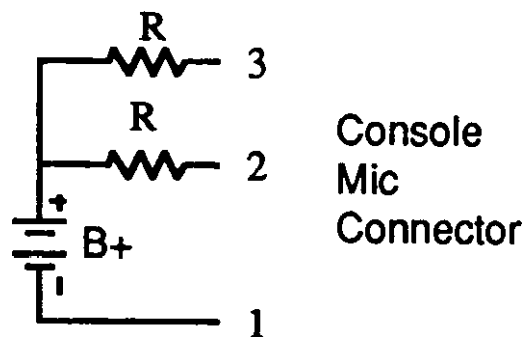
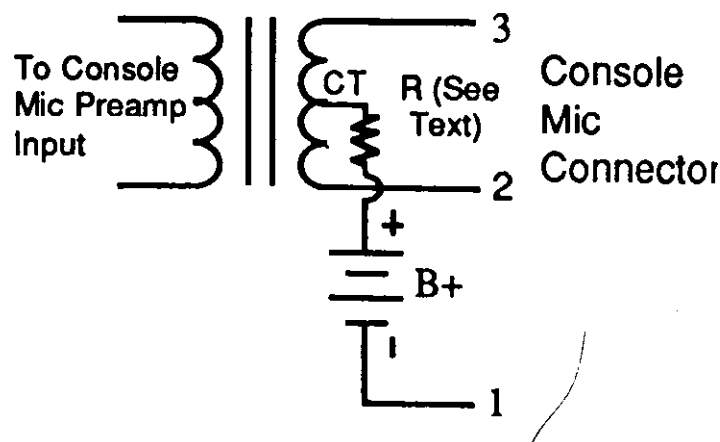

Fig. 1. Phantom voltage applied through two equal resistors.
Fig. 2. Phantom voltage applied through a center-tapped transformer.
The phantom voltage is applied either through two equal resistors to pins 2 and 3 (Fig. 1), or through a resistor to the ungrounded center tap of the microphone input transformer (Fig. 2).
1. Apply phantom power through two equal resistors to pins 2 and 3 (Figure 1).
2. Apply phantom power through one resistor to the ungrounded center tap of the input transformer (Figure 2).